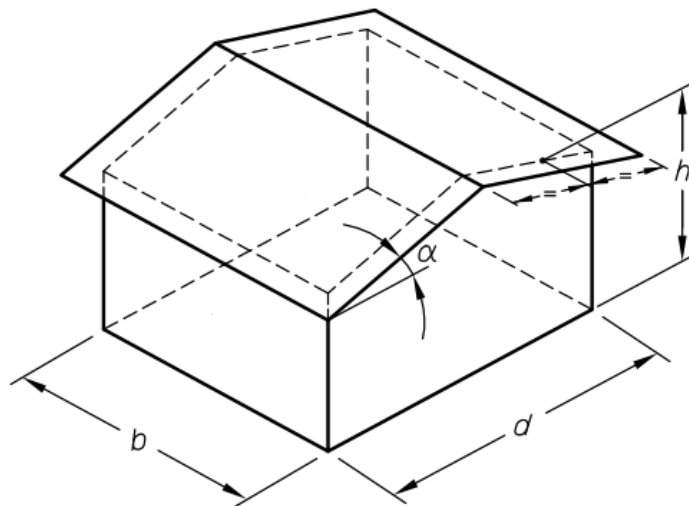

Figure 1 - Building Dimensions Definition
For building dimensions definition, please see **Figure 1**.
- Building aspect ratio **eArc panels attached to enclosed building with aspect ratios h/d ≤0.5 and h/b ≤0.5, see Figure 1**